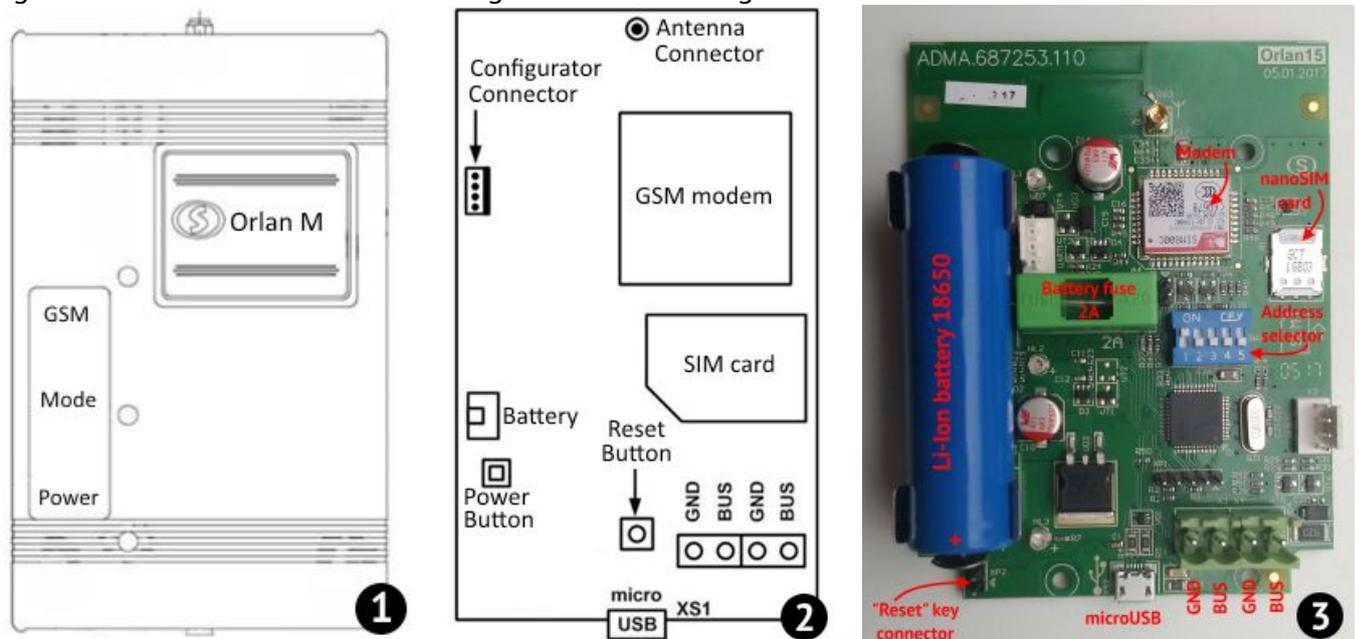
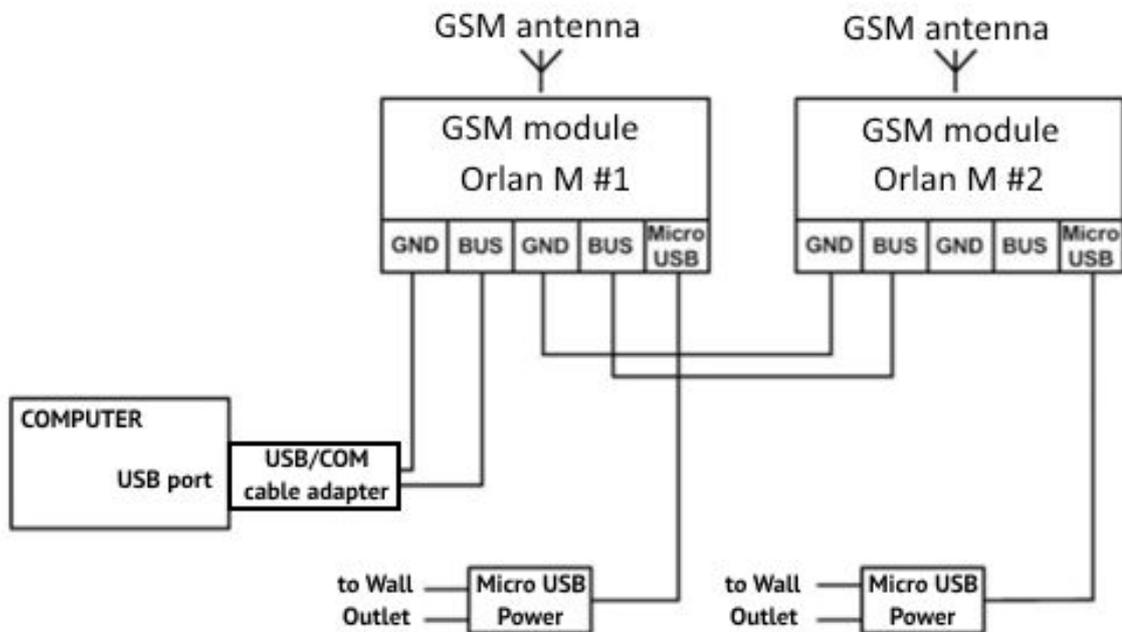

Figure 4. "Orlan-M" module (1) and its "Orlan-M11" (2) or "Orlan-15" (3) PCBs
Figure 5. "Orlan-M" module connection diagram
The receiving part of "Orlan" CMS consists of two separate "Orlan-M" wall modules with GSM modems as shown in Figure 4. "Orlan-M" module has the "Orlan-M11" or "Orlan-15" PCB with a power supply connector, connectors for inter-module connections and PC interfacing (through the special USB cable adapter), remote antenna connector and the configuration connector as shown in Figure 4. The module connection diagrams shown in Figure 5.
6. Connect the Orlan-SMS USB cable to the configuration connector of "Orlan-M" module (see. Figure 4, "Orlan-M11" PCB). The module shall be in the open position;
- down **Reset** button (see. Figure 4) for 2 seconds;
- To configure the “Orlan-M” module **based on “Orlan-15” PCB**, the hardware address selector is used. The required address of the device on the bus should be set in binary code in accordance the Table 1 while the module’s **power is off** (see Figure 4, “Orlan-15” PCB).
- Apply power to the modules by pressing the Power button (see. Figure 4);
The board of “Orlan-M” module has three LEDs: red, green and blue (see. Figure 4).